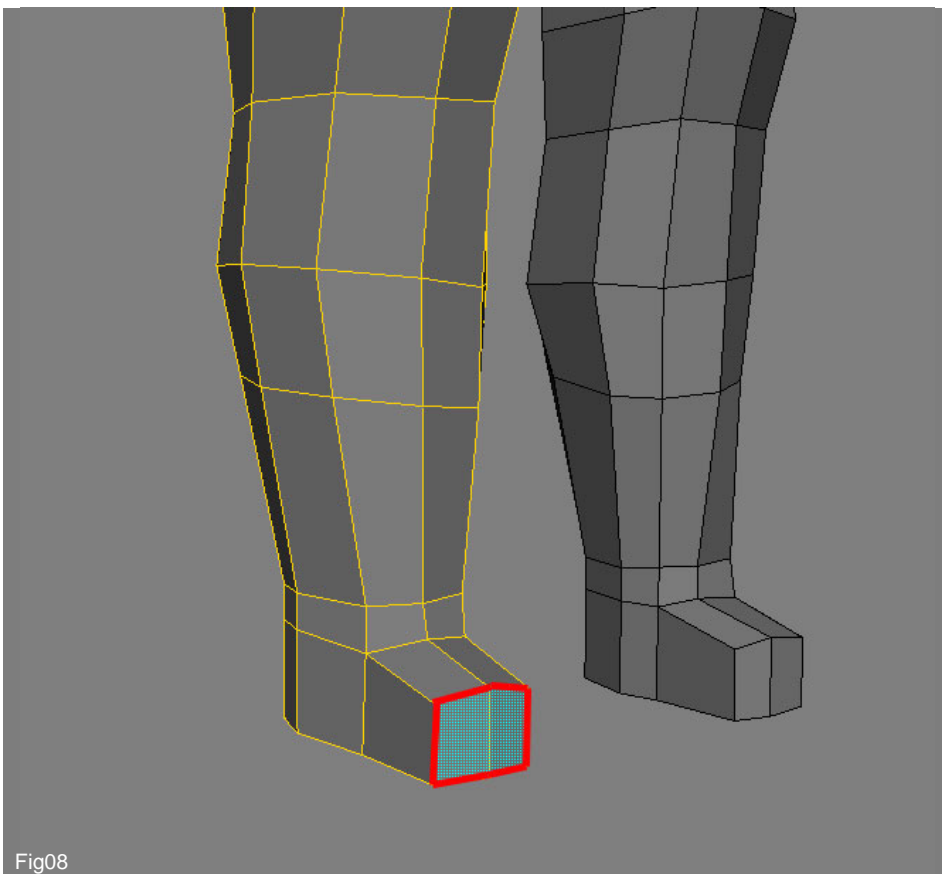

Fig08
8. Let's start creating the foot, extruding the two front polygons and scaling them down a bit, as shown in Fig 08.